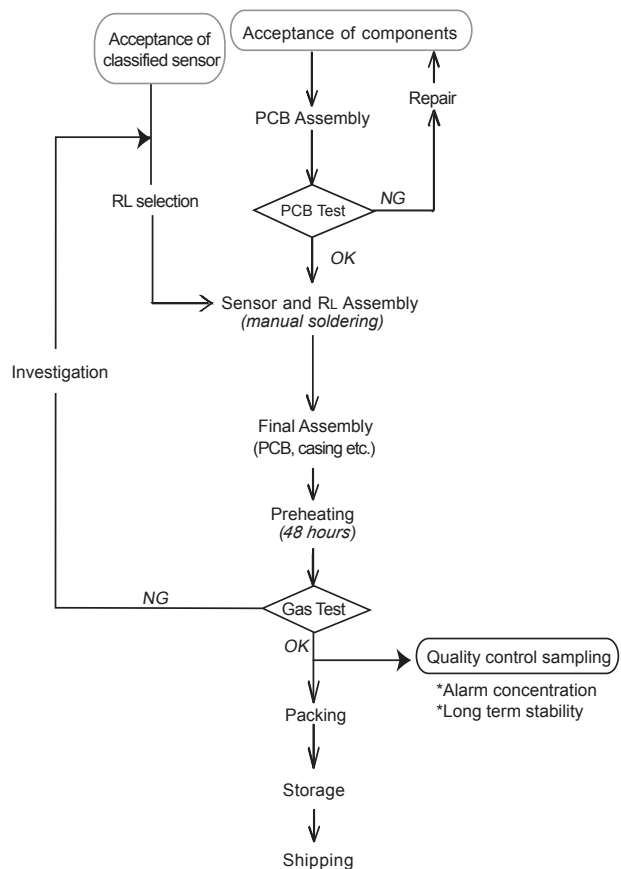

Figure 8 - Manufacturing process flowchart
2. Manufacturing Process (see Fig. 8)